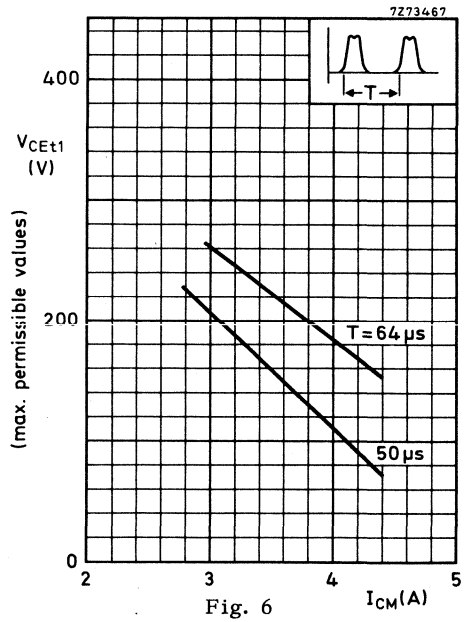

Fig. 6
- Fig. 6. Maximum permissible collector-emitter voltage at the time t_1 during turn-off; $t_1 = 0,5 \mu\text{s}$ from the 90% value of the collector current peak (Design Centre Rating System).